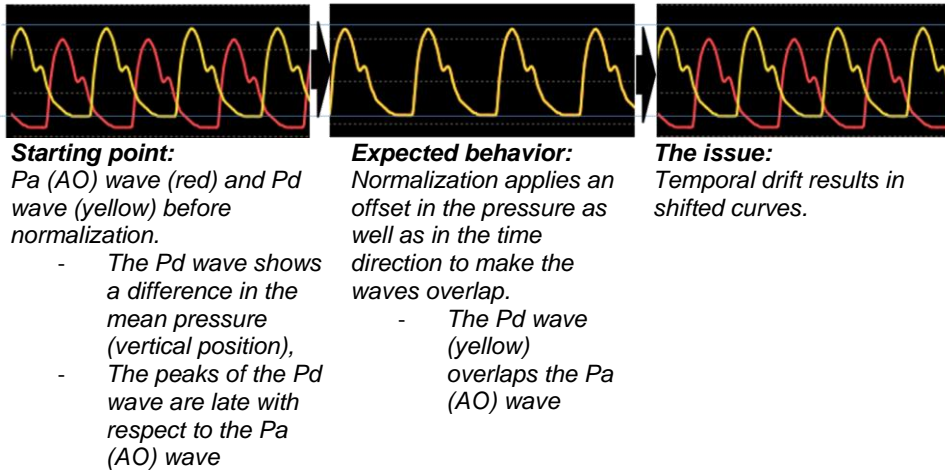

Figure 1 – Pa (AO) wave (red) and Pd wave (yellow) normalization issue
- A delay of the Pd wave with respect to the Pa wave that is increasing over time ('drift'). The drift decreases in time towards zero eventually leading to a constant shift between the Pa wave and Pd wave (see Figure 1 below).